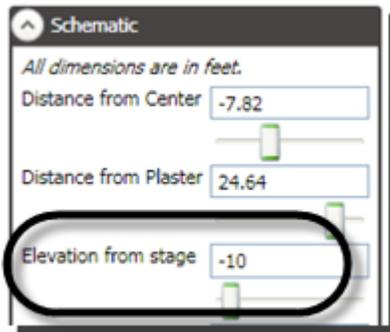
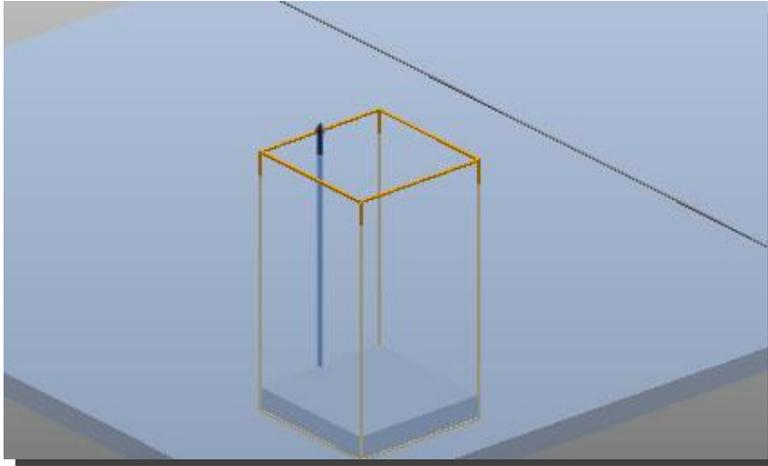

Figure 278
Figure 279
- Using the **Elevation from stage** field, position the Lift so that it travels into the trap room (Figure 278 and Figure 279).